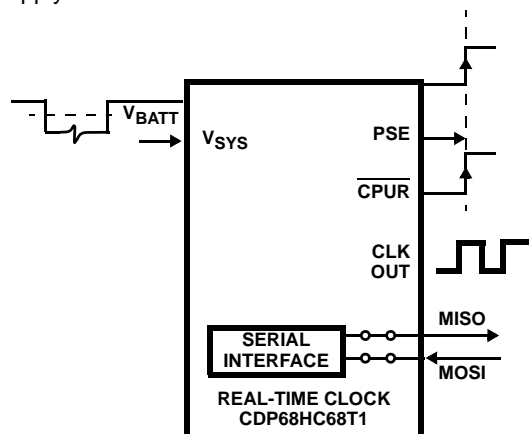

FIGURE 6. POWER-UP FUNCTIONAL DIAGRAM (INITIATED BY A RISE IN VOLTAGE ON THE " V_{SYS} " PIN)
Watchdog Function (See Figure 6)
- The second condition that releases Power-Down occurs when the level on the V_{SYS} pin rises about 1.0V above the level at the V_{BATT} input, after previously falling to the level of V_{BATT} (see Figure 6) in the Battery Backup Mode or V_{SYS} falls to logic low and returns high in the Single Supply Mode.